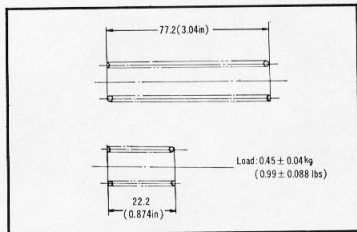

Figure 3-59. Cam chain tensioner spring
- (1) Cam chain tensioner spring. (Fig. 3-59)